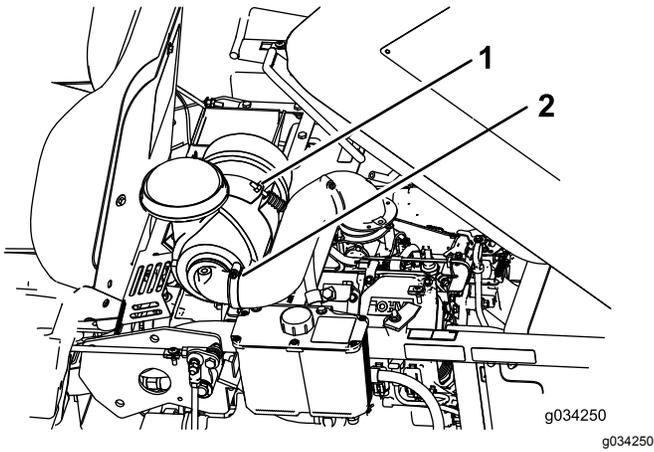

Figure 29
2. Loosen the bolt holding the air cleaner (Figure 29).
- Loosen the clamp holding the hose and remove the air cleaner (Figure 29).